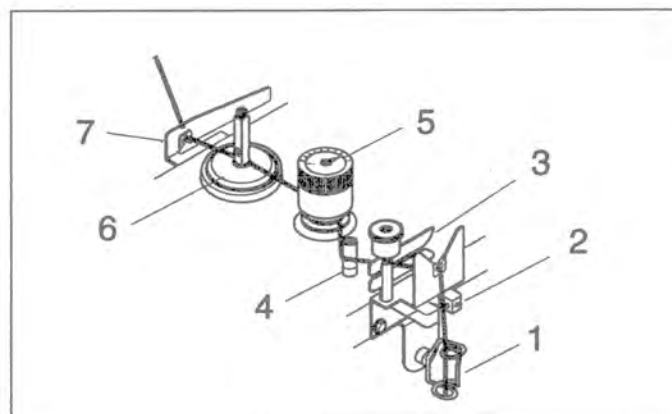

Fig. 2-8
2.1.4 WAXING DEVICE unit - Fig. 2-8